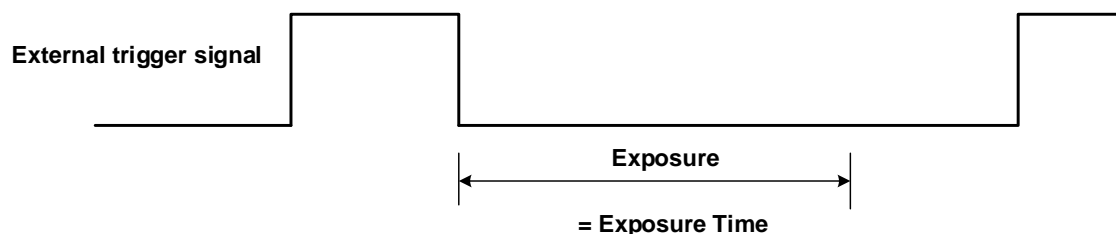

Figure 8-13 The sequence diagram in falling edge trigger of Timed exposure mode
- If falling edge triggering is enabled, exposure starts when the trigger signal falls and continue until the exposure time has expired, as shown in Figure 8-13